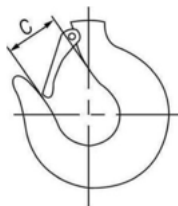

Figure 3:
To operate the hoist, simply press the up (fig. 2) or down (fig. 3) button on the pendant. This motion will raise or lower the hoist chain accordingly. The more you increase pressure on the button you select the faster the chain speed will be. For slow, precise motions push the button lightly. For high speed, increase pressure on the button until it is fully depressed.
- Inspect the hook to ensure that no abnormal wear exists on the sling section and the hook is not bent to open excessively. Fig. 3 shows standard dimensions of the hook opening.